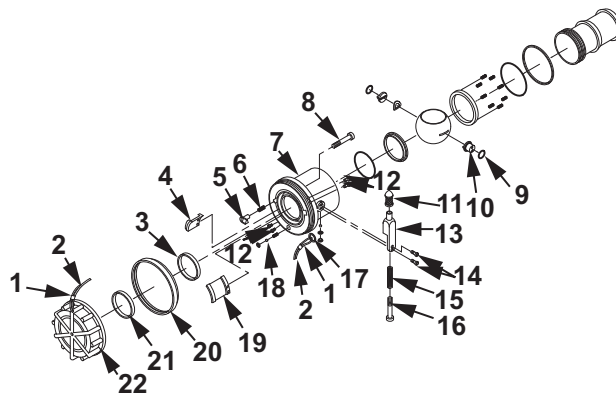
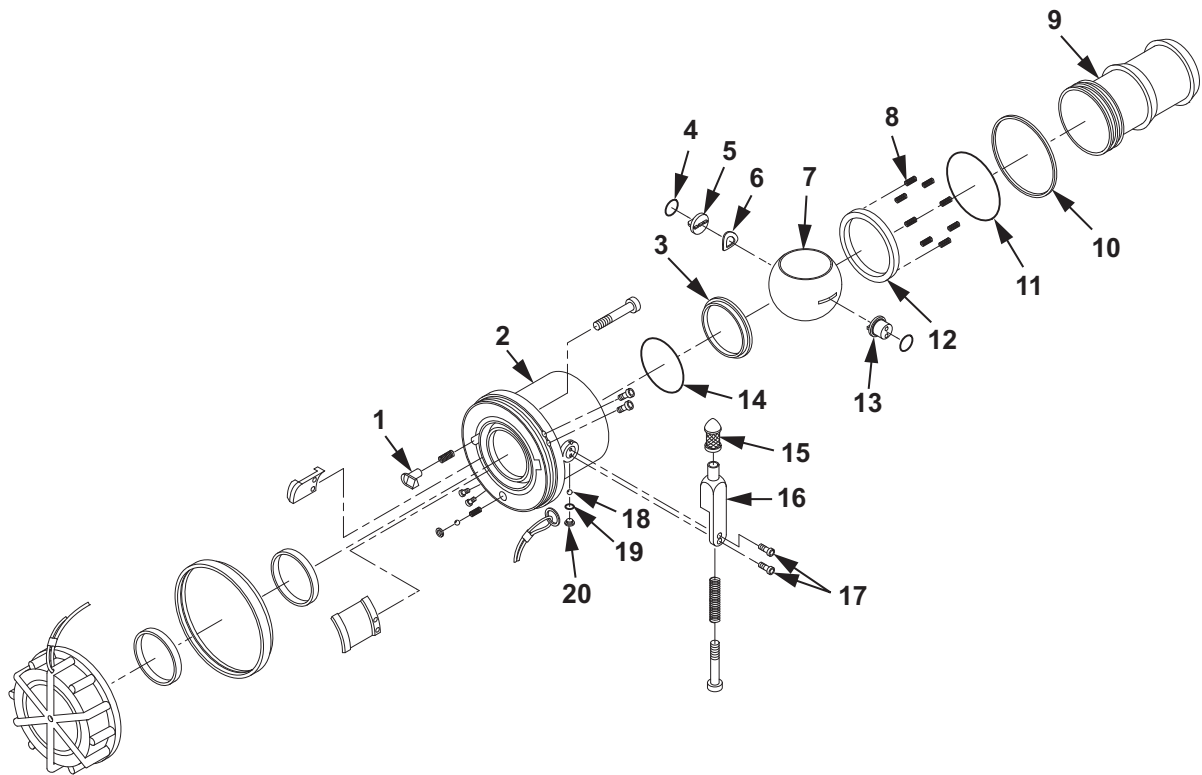

Figure 2. Valved Dry-Break Coupling Disassembly.
Figure 3. Valved Dry-Break Coupling Disassembly.
2. Inspect bumper (Figure 2, Item 20) for cracks, tears or cuts. If cracks, tears or cuts are found, replace with a serviceable like item.
3. Inspect dust cap (Figure 2, Item 22) for cracks or damage. If cracks or damage is found, replace with a serviceable like item.
4. Inspect ball bearing (Figure 2, Item 18) located in face of coupling for damage. Push the ball bearing (Figure 2, Item 18) in and ensure it pops back into place. If damage is found or ball does not pop back into place, replace coupling (Figure 2, Item 7).
5. Inspect control arm (Figure 2, Item 13) for cracks or damage. If cracks or damage is found, replace with a serviceable like item.
If it was necessary to replace lockout pin (Figure 2, Item 5), perform the following installation steps.
1. Install screw (Figure 2, Item 8) into coupling (Figure 2, Item 7).
2. Install spring (Figure 2, Item 6) into coupling (Figure 2, Item 7) and over screw (Figure 2, Item 8).
3. Install lockout pin (Figure 2, Item 5) into coupling (Figure 2, Item 7).
4. Tighten screw (Figure 2, Item 8) until ramp edge of lockout pin (Figure 2, Item 5) is even with or slightly below the adjacent ledge of coupling (Figure 2, Item 7).
If it was necessary to replace bumper (Figure 2, Item 20) or lugs (Figure 2, Item 19, 4), perform the following installation steps.
5. Position lugs (Figure 2, Item 19, 4) in coupling (Figure 2, Item 7).
6. Install screws (Figure 2, Item 12) into coupling (Figure 2, Item 7).
7. Using torque wrench and screwdriver bit, torque screws (Figure 2, Item 12) to 6 in. lb (0.70 N•m).
8. Position bumper (Figure 2, Item 20) with thin lip seal end facing away from coupling (Figure 2, Item 7).
9. Install bumper (Figure 2, Item 20) on coupling (Figure 2, Item 7).
10. Install new seal (Figure 2, Item 21) on dust cap (Figure 2, Item 22).
If it was necessary to replace dust cap (Figure 2, Item 22), perform the following installation steps.
11. Loop one end of 18 in. cable (Figure 2, Item 2) through sleeve (Figure 2, Item 1), dust cap (Figure 2, Item 22) and back through sleeve (Figure 2, Item 1).
12. Using pliers, crimp sleeve (Figure 2, Item 1).
13. Loop other end of 18 in. cable (Figure 2, Item 2) through sleeve (Figure 2, Item 1), split ring (Figure 2, Item 17) and back through sleeve (Figure 2, Item 1).
14. Using pliers, crimp sleeve (Figure 2, Item 1).
15. Install new seal (Figure 2, Item 3) into coupling (Figure 2, Item 7) interface.
16. Install dust cap (Figure 2, Item 22) on coupling (Figure 2, Item 7).
If it was necessary to disassemble control arm (Figure 2, Item 13), perform the following assembly steps.
17. Lightly lubricate new O-ring (Figure 2, Item 9) with petrolatum and install O-ring (Figure 2, Item 9) on control arm shaft (Figure 2, Item 10).
18. Place spring (Figure 2, Item 15) on screw (Figure 2, Item 16).
19. Install screw (Figure 2, Item 16) into control arm (Figure 2, Item 13).
20. Install knob (Figure 2, Item 11) on control arm (Figure 2, Item 13).
21. Tighten screw (Figure 2, Item 16) hand tight.
22. Install control arm shaft (Figure 2, Item 10) inside coupling (Figure 2, Item 7).